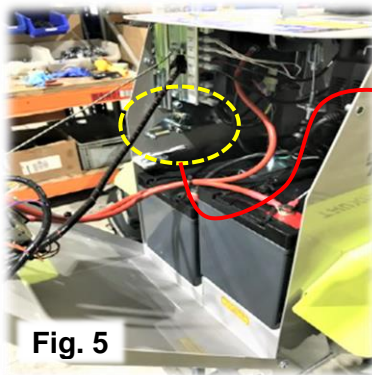

Fig. 5
- Using two 5.5mm wrenches or sockets, loosen the 3mm pinch bolt holding the potentiometer clamp just enough to allow the potentiometer shaft to move within the potentiometer clamp. Ref. Fig. 5 & 6